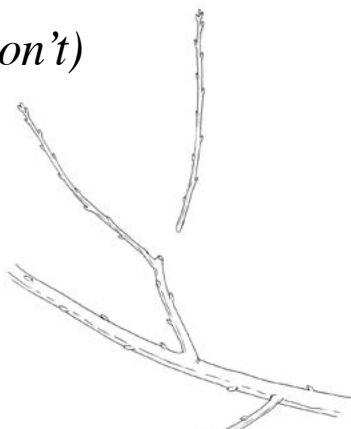

Figure 38
- Where adjacent branches are the same size, remove one in order to improve light penetration (Figure 38).